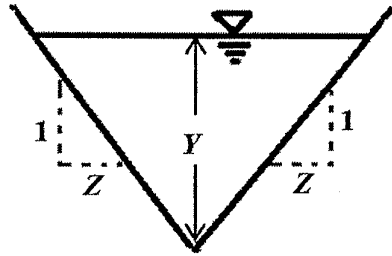

Figure 1. Triangular Channel Section
- (a) Prove that the triangular channel section shown in **Fig. 1** is the best hydraulic section when $Z = 1.0$. (that is, achieves optimal hydraulic efficiency when Z equals 1.0.